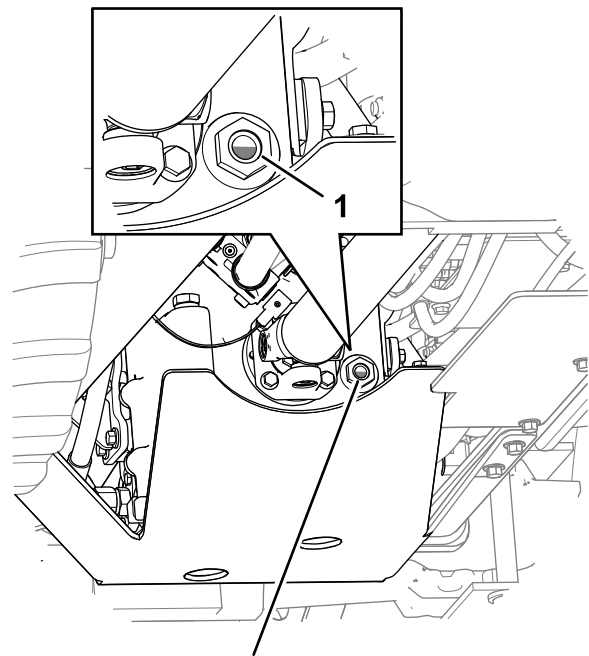

Figure 94
4. After 5 minutes, check the transmission oil level in the sight gauge (Figure 94).
6. Repeat steps 2 through 5 until the oil level covers 1/2 to 3/4 of the sight-gauge window (Figure 94).
Note: The oil level should cover 1/2 to 3/4 of the sight-gauge window (Figure 94).